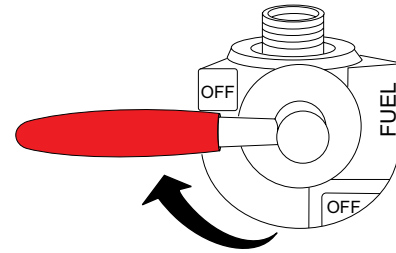

Figure 25. Fuel Tank ON/OFF Valve (OFF)
6. Place the fuel valve lever (Figure 25) in the **OFF** position.